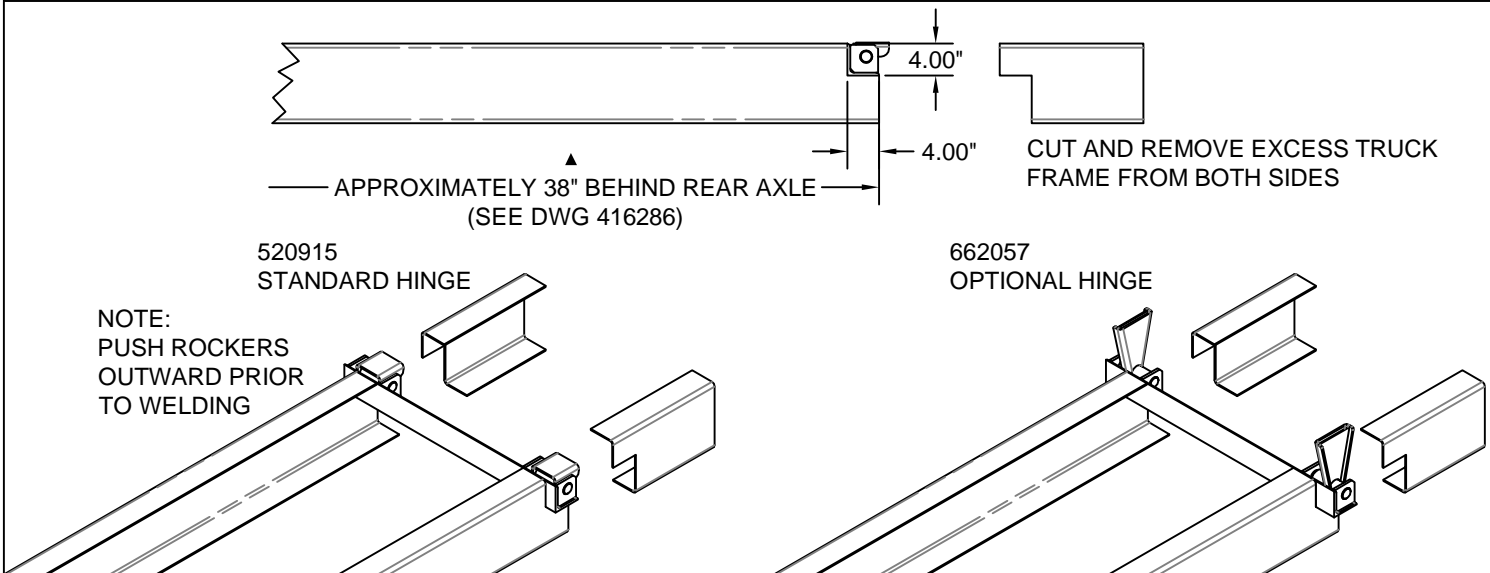

Figure 2 - Frame Modification and Rear Hinge Attachment
- Cut a 90° slot in each side of the frame as shown in Figure 2 below.
With the body aligned with the truck frame, push the hinge rockers outward as far as possible. Ensure that the longitudinal rails are sitting flat on the rockers, weld the body longitudinals to rockers (DWG 520604 Figure 2). See installation DWG 662861 for more information regarding the mounting of the rear hinge rockers to the body.
Place the rear hinge brackets in the vertical position (DWG 520604 Figure 2). Weld and/or bolt the brackets to the longitudinals. If bolted, mark and drill each bracket four [4] places (17/32" holes) and secure the brackets to the longitudinals using eight [8] 1/2"-13 x 1-1/2" Grade 8 hex head cap screws, eight [8] 1/2" lock washers, and eight [8] 1/2"-13 hex nuts. See installation DWG 662861 for more information regarding the mounting of the rear hinge brackets to the body.